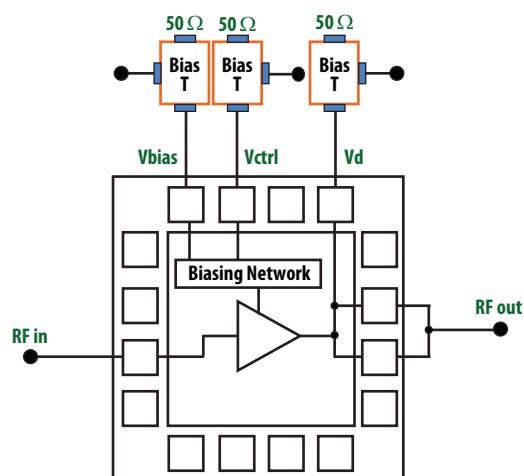

Figure 48. Circuit to measure de-embedded S-parameters and Noise Parameter in Table 4 and 5.
1. Measurements are conducted on 0.010 inch thick ROGER 4350. The input reference plane is at the end of the RFin pin and the output reference plane is at the end of the RFout pin as shown in Figure 48.
$T_C = 25^\circ\text{C}$ ,  $V_{dd} = 5.0\text{V}$ ,  $I_{dd} = 60\text{mA}$ ,  $Z_o = 50\ \Omega$  (Data is de-embedded to the RFin & RFout pins on package. Measurements were made with Bias-T at  $V_{dd}$ ,  $V_{ctrl}$  and  $V_{bias}$  in Figure 48)